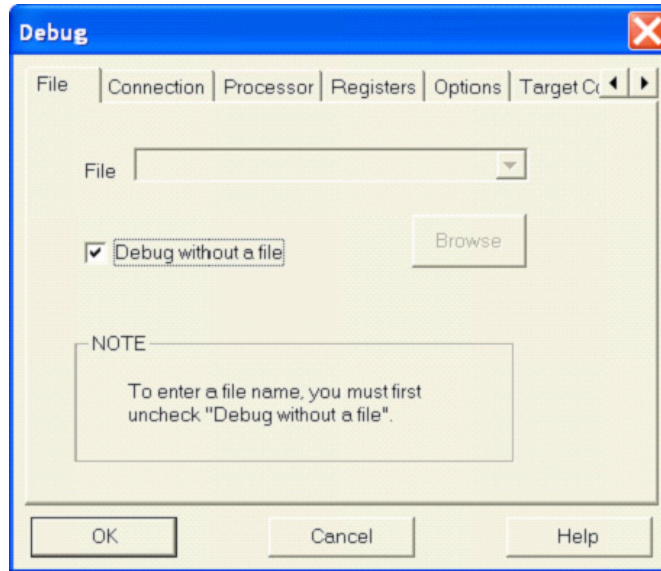

Figure 27—File Tab Settings
**NOTE:** When you are ready to begin debugging, return to the File tab (see Figure 27 on page 16), de-select Debug without a file, and browse to the **sysflash.elf** file you wish to debug.